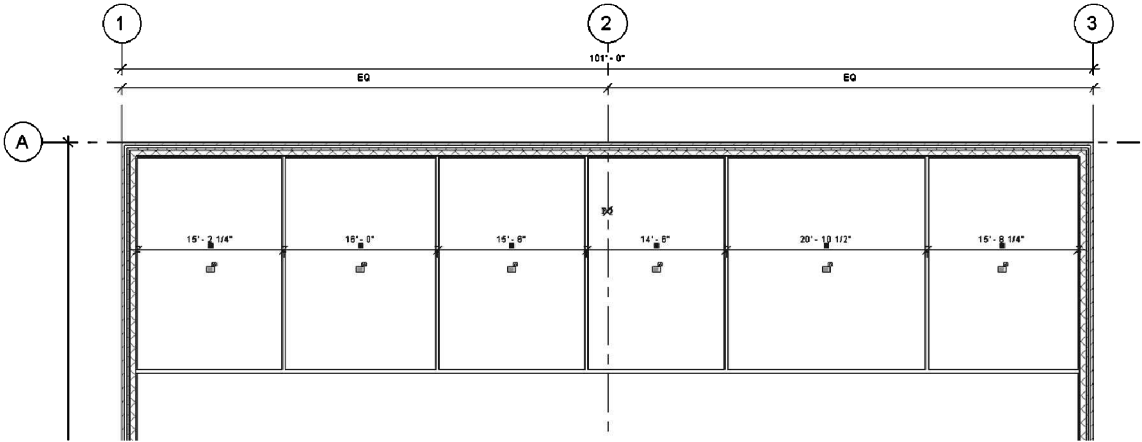

FIGURE 2-1.17 Adding a dimension string
- 49. Your last pick should be away from any elements to position the dimension string somewhere within the rooms (Figure 2-1.17).